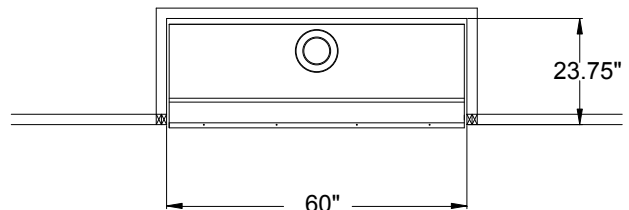
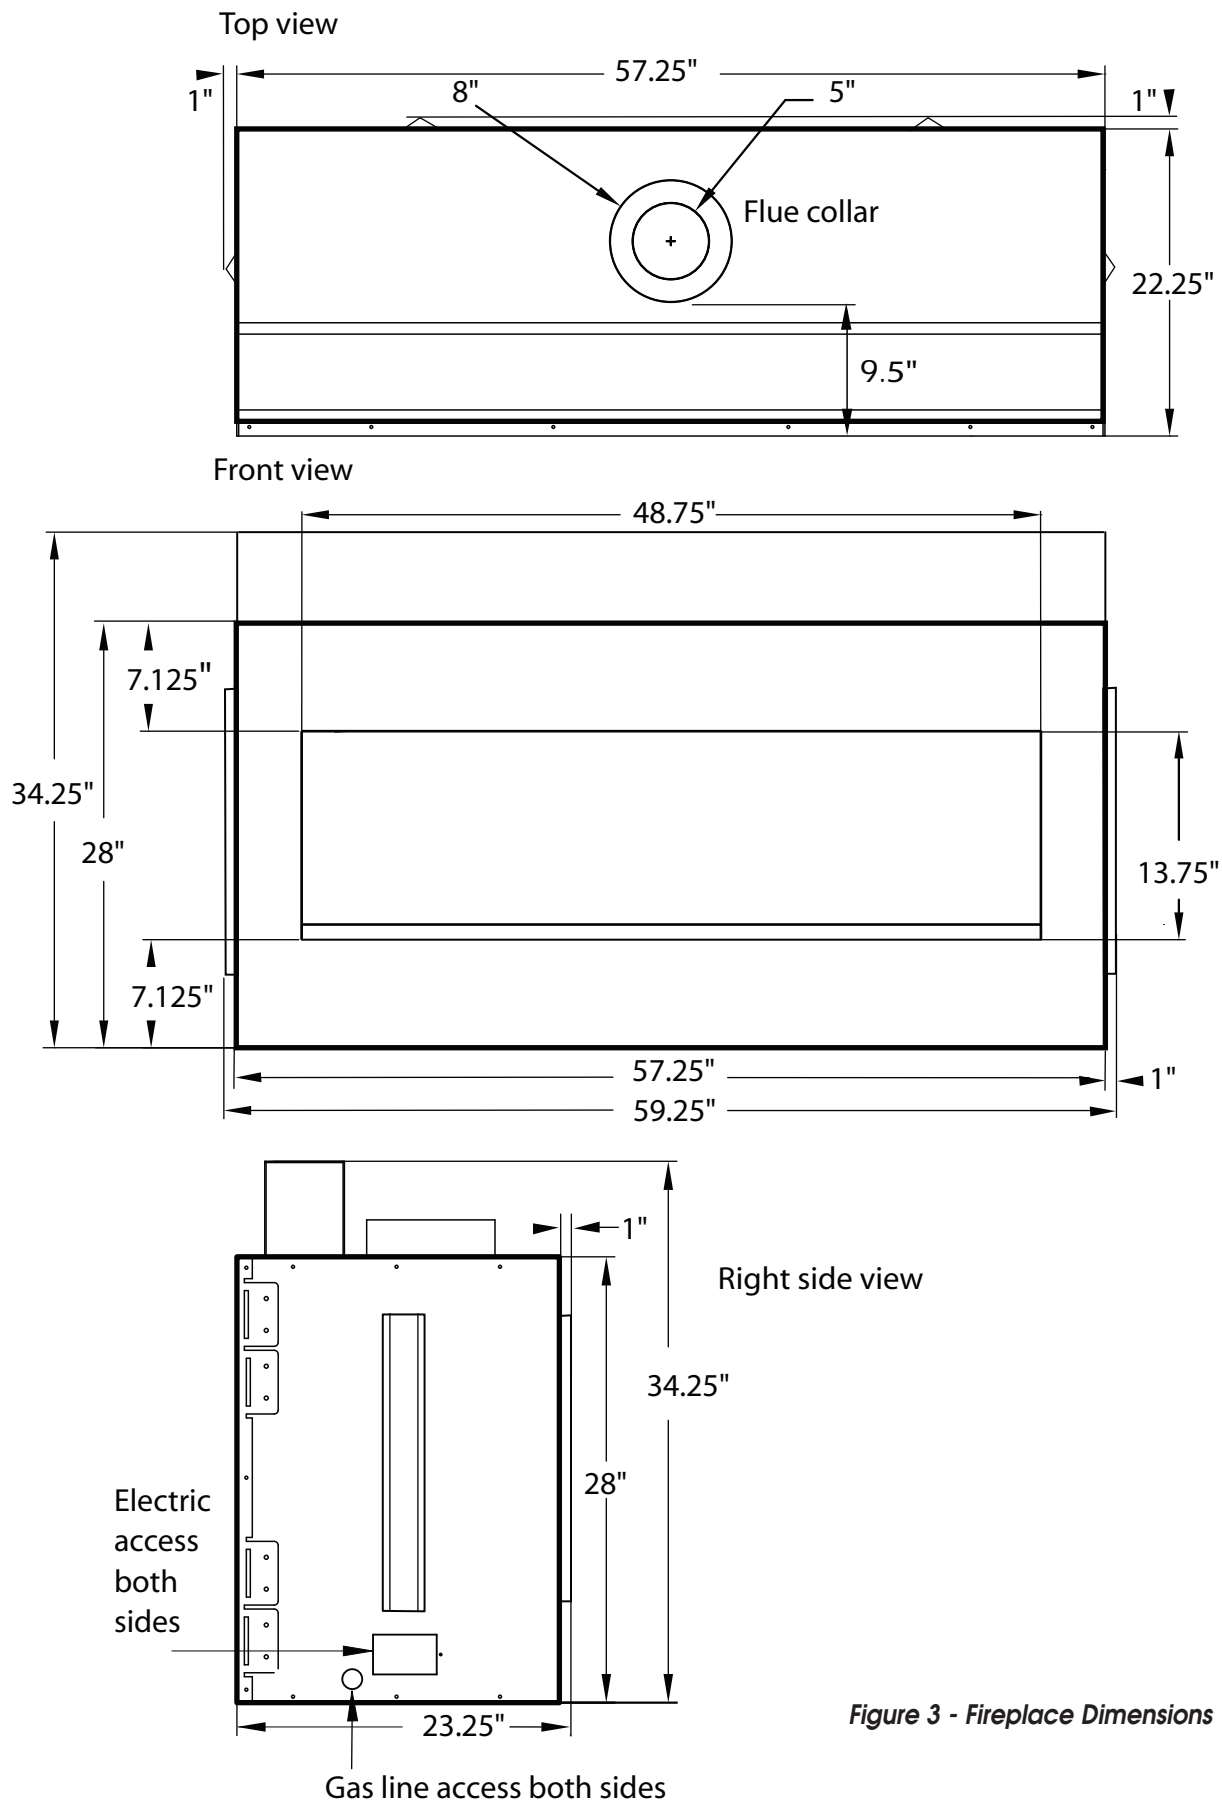

Figure 2 - Framing Dimensions
Figure 3 - Fireplace Dimensions
Firebox framing can be built before or after the appliance is set in place. Construct firebox framing following *Figure 2* and the chart below for your specific installation requirements. See *Figure 3 on Page 8* for firebox dimensions. The framing headers may rest on the top of the firebox standoff.
2. Minimum outside dimensions of the material over the facing are 60" x 34-1/2" (see *Figure 2*).